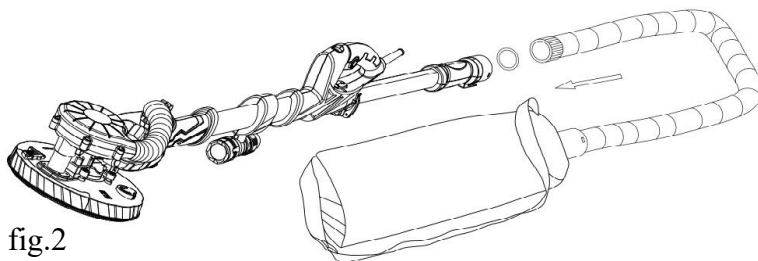

fig.2
6. Attach the dust hose, dust proof ring, and vacuum bag to the extension rod (figure 2).